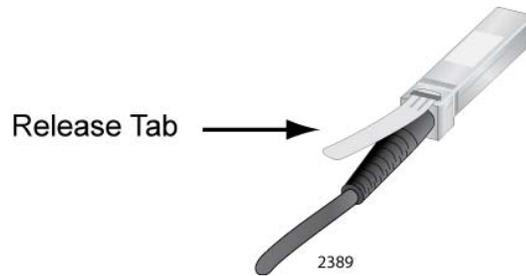

Figure 95. Release Tab on the AT-SBx81XS6 Line Card
2. Orient the connector on the AT-SP10TW cable so that the release tab is on top, as shown in Figure 95 on page 139.